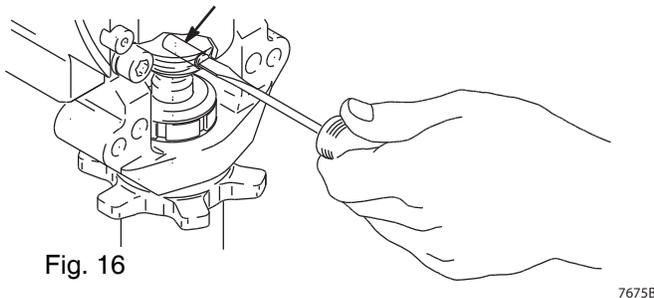

Fig. 16
5. Fig. 16. Use screwdriver: push retaining spring up and push out pin (235).
2. Fig. 16. Push pin (235) into hole. Push retaining spring into groove around connecting rod.